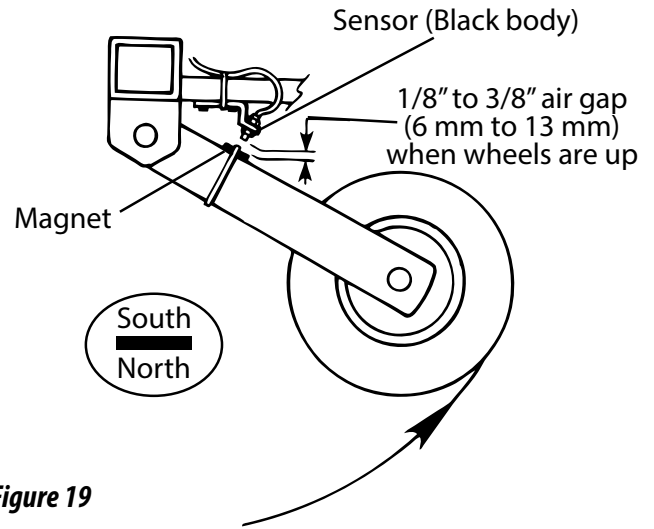

Figure 19
1. Choose magnet location on lever or some part of the equipment that moves when the implement is raised and lowered - be sure location will not interfere with any moving parts. See *figures 19 and 20* at right.